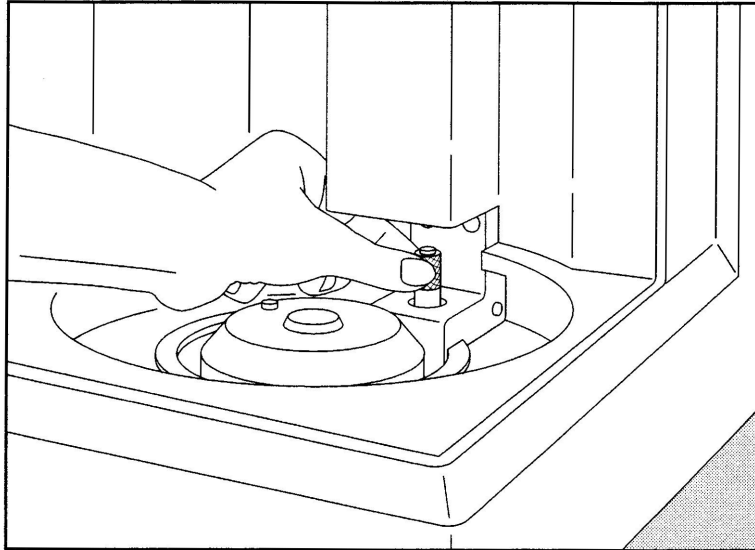

Figure 2. Inserting T-5699 Tool into lower jaw
4. Insert the T-5699 Tool into the lower jaw seal (Figure 2).